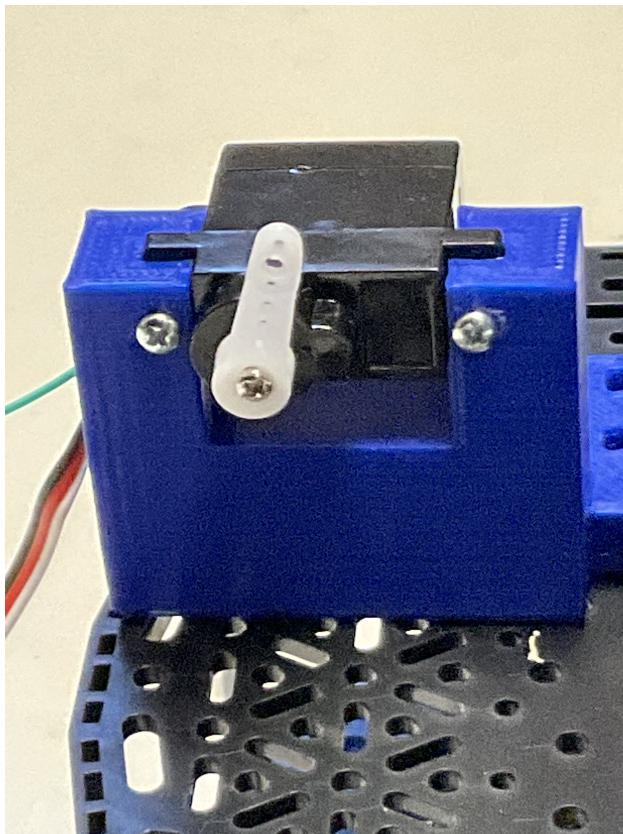

Figure 5: Servo with horn mounted.
3. Using 3/4" screws, mount the servo in the servo bracket. Be careful that the screw doesn't damage the wires coming out of the servo. Mount the horn on the servo using the smallest screw in the package of servo parts. You will want to attach the horn so that it ranges from straight up to straight down. Figure 5 shows the horn at the upward extreme. You can use the horn to gently drive the servo to one extreme or the other so you can properly align it.